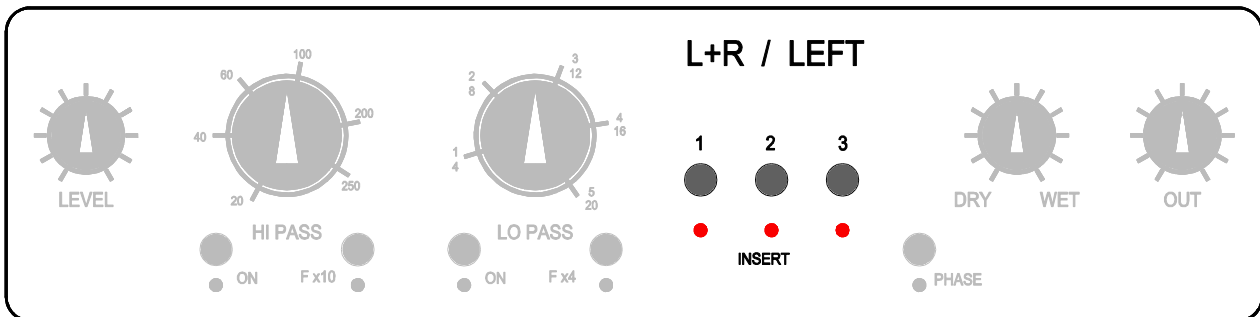

Fig. 8 L+R INSERT selection buttons
**INSERT 1/2/3** are selected by pressing the corresponding INSERT button as indicated in FIG. 8. The **SEND** out is electronically balanced. To obtain an outstanding audio quality, no servo amplifiers are used in the **ML-118** so